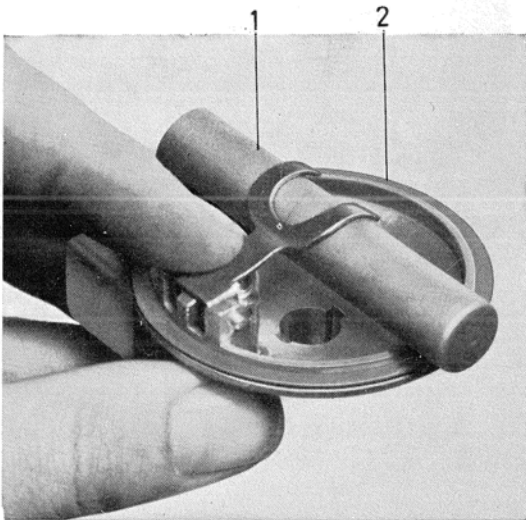

Fig. 16. Checking fuel lever.
3. Measure the distance from the float chamber cap to the lever by means of gauge SVO 2324 as shown in Fig. 16. When the needle valve is closed, the needle valve lever should just contact the gauge.